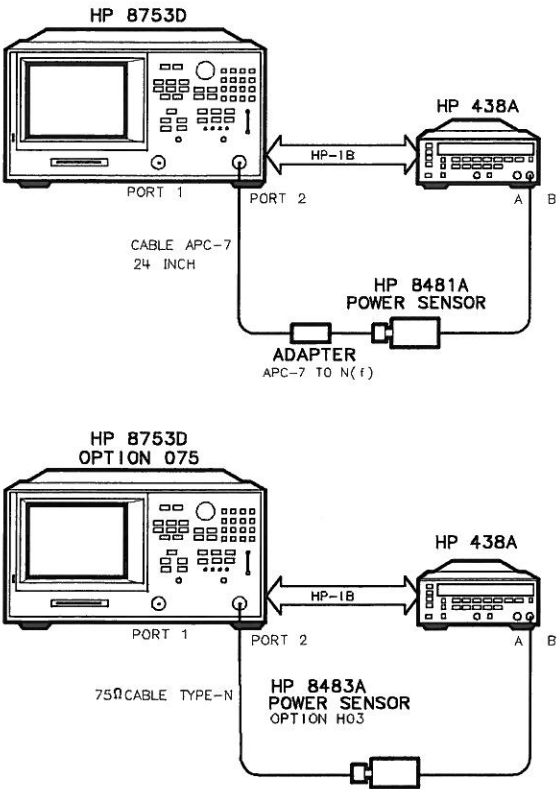

Figure 1-27. Setup for Power Meter Calibration on Test Port 2
32. Connect the equipment as shown in Figure 1-27.